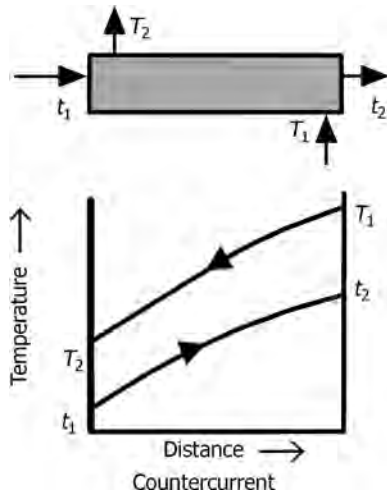

FIGURE 10.36 Temperature profiles for countercurrent flow.
- Temperature profiles for countercurrent flow are given in Figure 10.36.